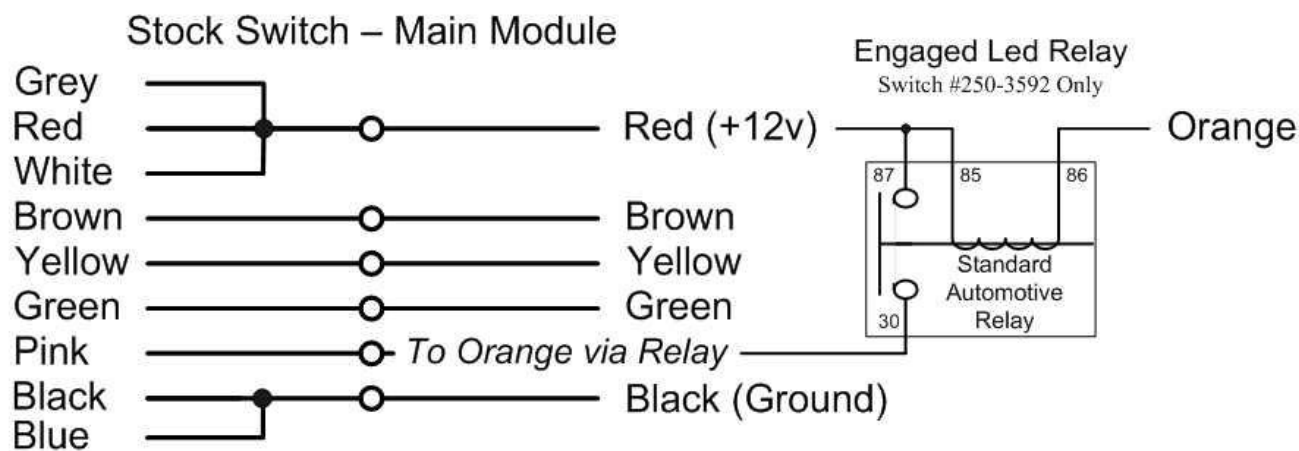

Figure 4 - Unmodified Switch Connections
3. Advanced Option: If for some reason you want the cruise control to shut off, based on something else happening on the scooter, you can. Instead of connecting the White wire to the Red wire as instructed above, connect it to what you want to monitor. For monitoring a +12v signal, just connect it directly, for monitoring a grounded signal connect it along with +12v and ground to an SPDT relay, similar to what we did with the pink wire in Figure 4. The difference between using this wire instead of the Neutral Safety wire is that the Neutral Safety wire disengages saving the current set point so you can resume and this one turns off the Cruise Control erasing it. I can't think of any reason to use either in this application, however you now have the information to do so.